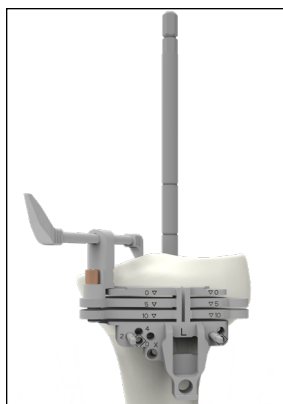

Figure 5
- In a revision procedure a **2mm cleanup** resection cut can be performed. 2mm of bone will be resected with the initial proximal resection when using the "2" end of the Triathlon Stylus (**Figure 5**).